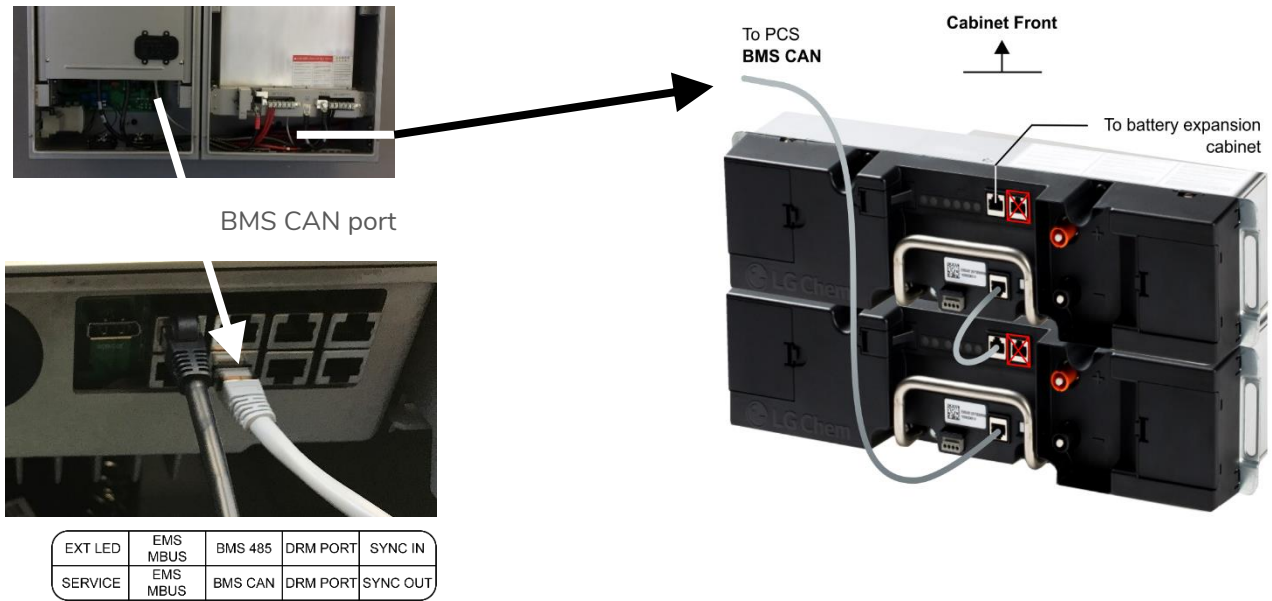

Figure 7: PCS to BMS communication wiring.
1. PCS cabinet: Terminate the cable (p/n 801003338) at the **BMS CAN** port, as shown in figure 7, above-left.